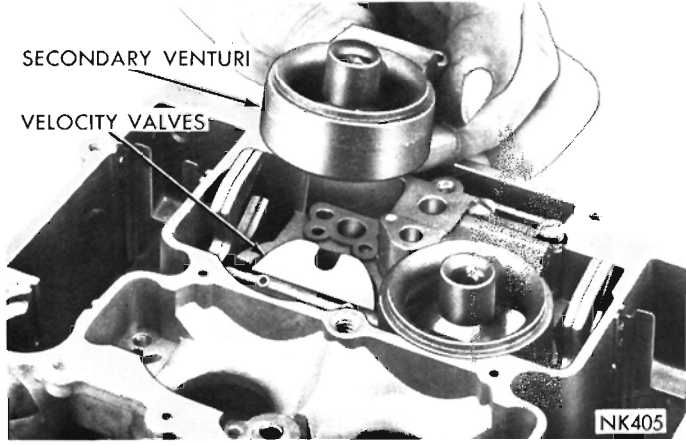
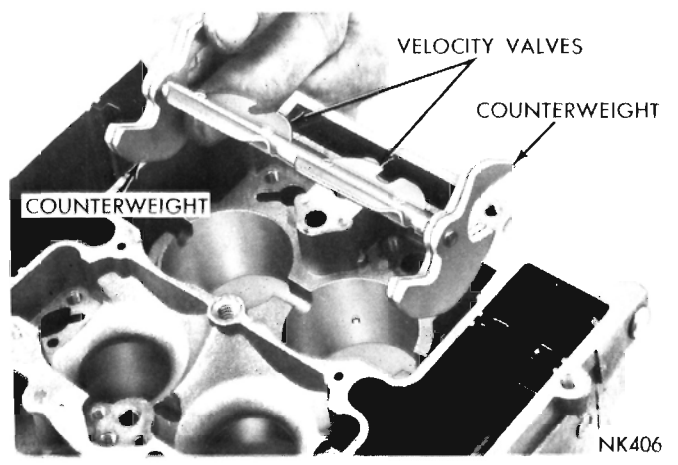

Fig. 6—Removing or Installing Secondary Venturi Cluster
Fig. 7—Removing or Installing Velocity Valves
(5) Remove screws that attach secondary venturi (choke and pump side) to main body. Lift secondary venturi assemblies straight up and away from body, (Fig. 6). Remove velocity valves (Fig. 7).
(6) Using Tool T-109-59, screw driver bit, remove accelerator pump intake check valve located inside